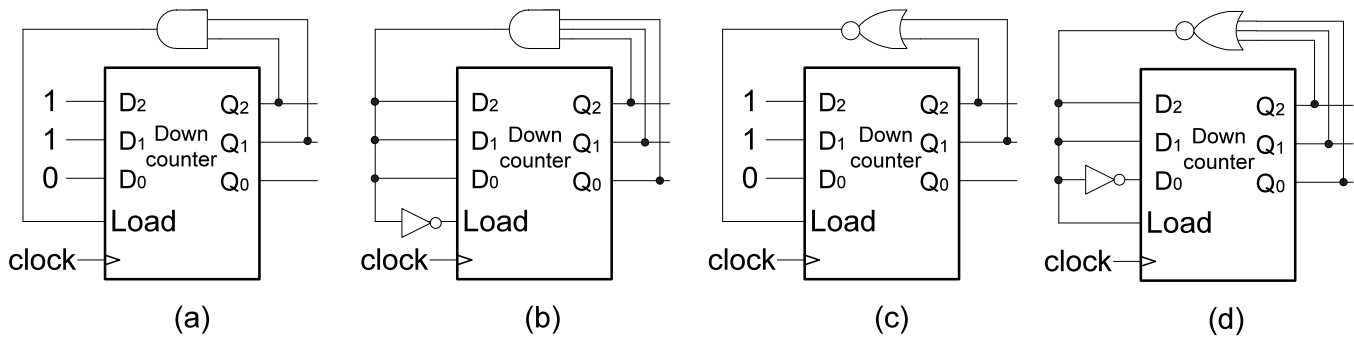

Figure 8 - Circuits for question 13 (it is assumed that after power up the state is 110).
1. Figure 8(a)
2. Figure 8(b)
3. Figure 8(c)
4. Figure 8(d)